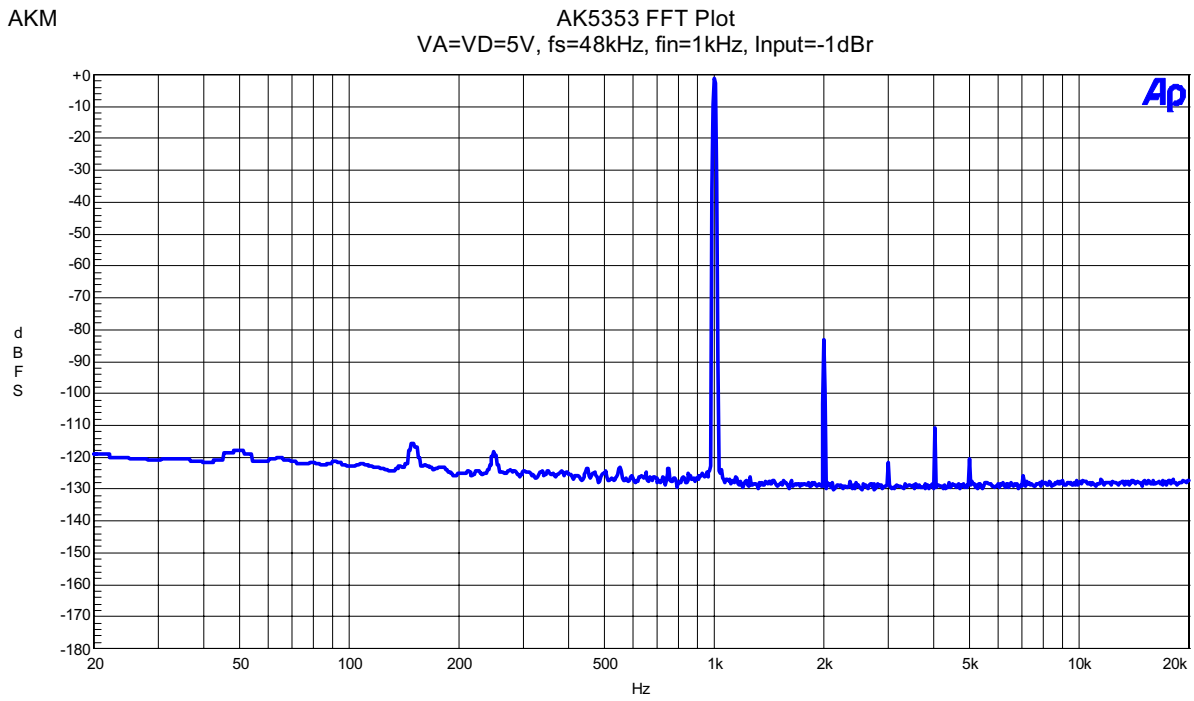

Figure 1-1. FFT (1kHz, -1dBFS input)
- Figure 1-1. FFT (1kHz, -1dBFS input)